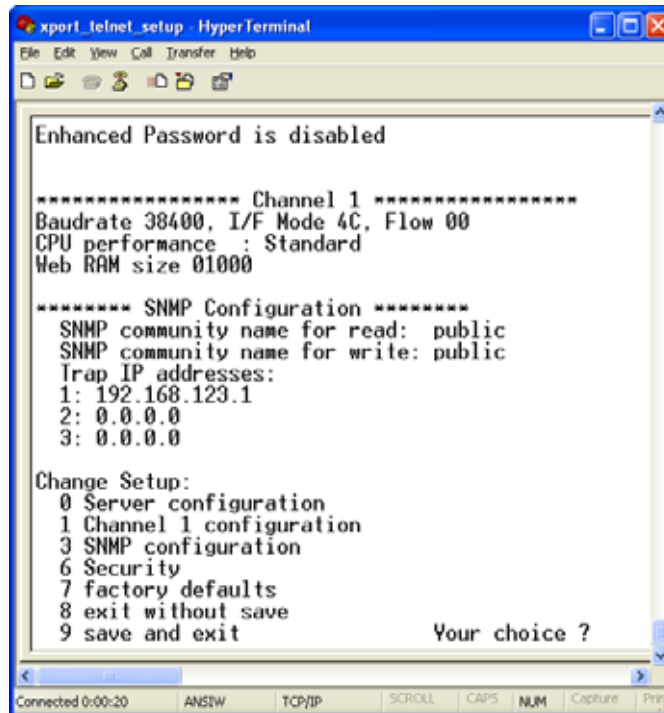

Figure 3.5: Device Server Configuration Menu
Once the *Telnet*® connection is established you will be prompted to “Press Enter for Setup Mode”. Press enter and a menu of device server configuration options will appear. Select menu item 3, “SNMP configuration”. You will be presented with a screen like shown in Figure 3.5. You will be prompted to enter SNMP community read and write strings.